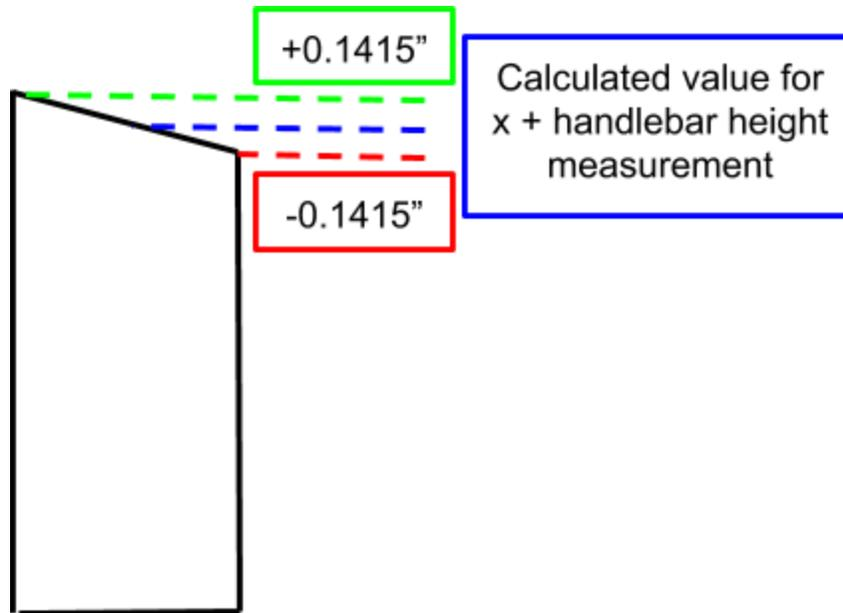

Figure 26. An illustration of the angled cut to the adjustment bar, and the resulting height differences at each end.
5. The adjustment bar itself will also be cut at a 10° angle, so there will be height differences that result from that angled cut at each end (as seen in Figure 26), which is 0.1415". This will allow you to determine the maximum height necessary for your adjustment bar notch position, as you will know the total height necessary for your angled handlebar design. This value can be found by adding the value calculated for x in the last step, the handlebar height measurement taken earlier, and 0.1415".